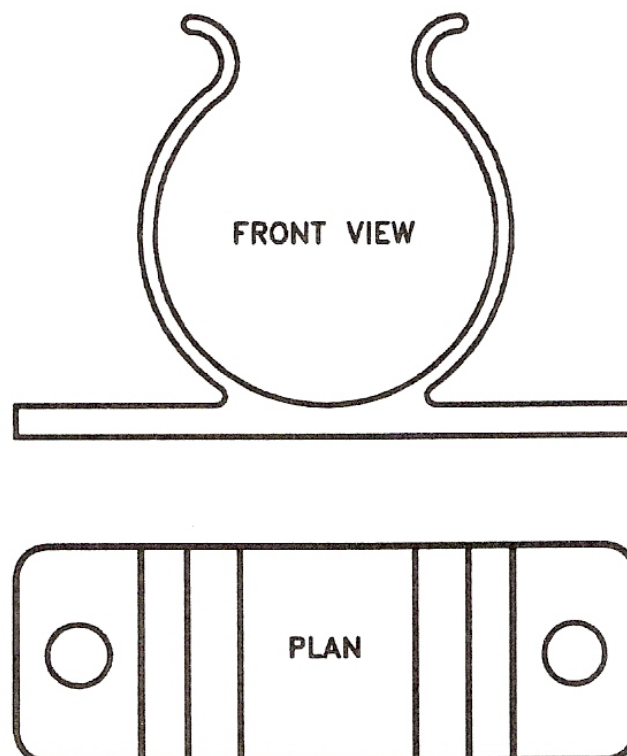

Figure 6 - First Angle Projection of the Pipe Clip
- Figure 6 is a Front view and a Plan in First angle projection of the pipe clip.